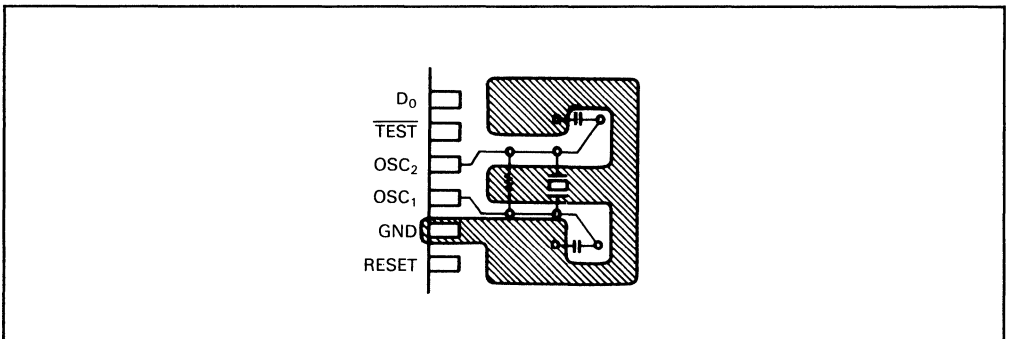

Figure 14. Layout of Crystal Oscillator
2. Wiring between the OSC 1/OSC 2 pin and an element must be as short as possible, and never cross other wiring. See the recommended layout of the crystal in Figure 14.